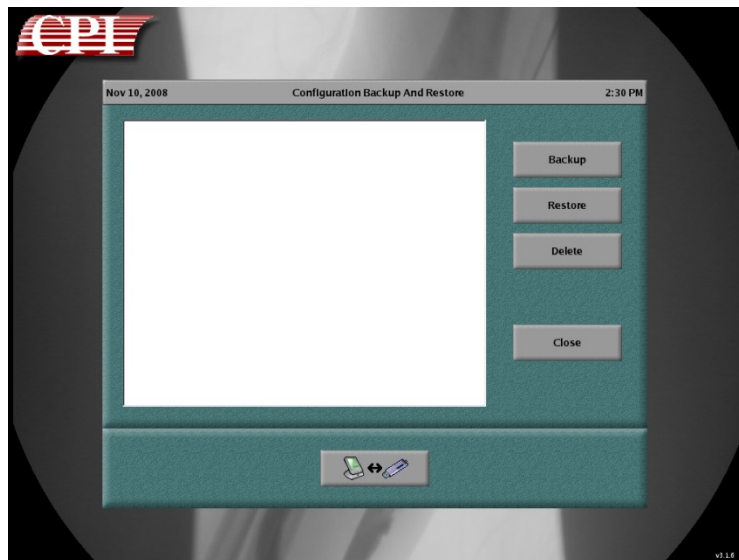

Figure 3-42: Configuration Back-up and Restore Window
1. From the system utilities menu, press **Configuration Backup / Restore**. A pop-up window (Figure 3-42) will display showing the available backup files that are stored on the touchscreen console's internal CompactFlash card.